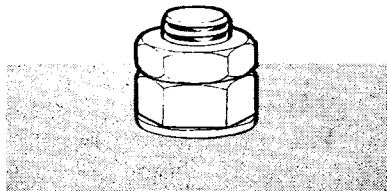

Fig. 3. Locknut
a. *Lock nut.* A lock nut is slightly thinner than an ordinary nut and is tightened down firmly on top of the main nut. This wedges the threads and prevents the main nut from slackening (Fig. 3).